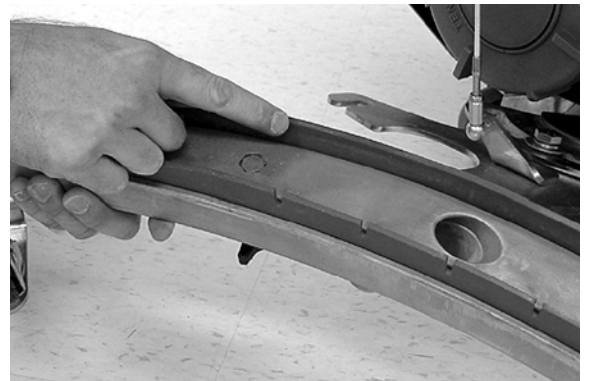

FIG. 49
- Check the condition of the squeegee blade wiping edge (Figure 49). Rotate blade if worn. (See SQUEEGEE BLADE REPLACEMENT)